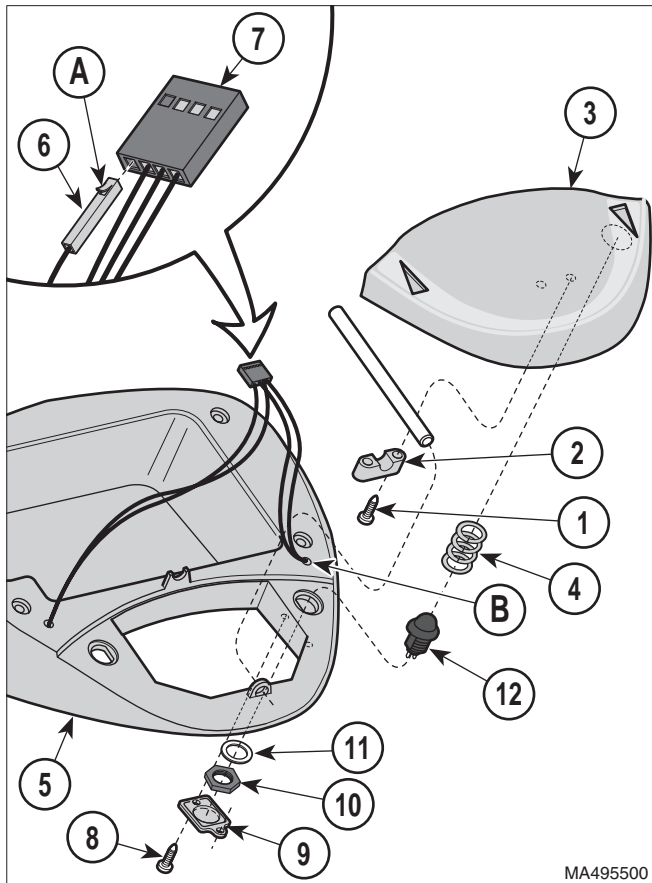

Figure 4-42. Foot Control *Foot Pedal* Switch Removal / Installation
- (1) Remove foot control top. (Refer to para 4.28 *or* 4.29).
- (2) Remove four screws (1, Figure 4-42), two pedal caps (2), foot control pedal (3) and two springs (4) from foot control base (5).
- (3) Tag switch lead (6) with position; then using an instrument with a sharp point, gently depress release tab (A) and pull lead from wire harness connector (7). Repeat this procedure for the second switch lead.
- (4) Remove two screws (8) and switch cover (9).